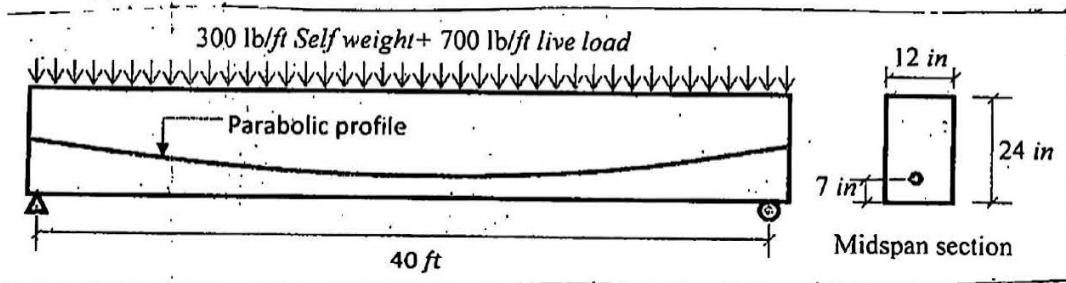

Fig. 4
(c) A post-tensioned bonded concrete beam as shown in Fig. 4 has a prestress of 355 kip in the steel immediately after prestressing and reduces to 308 kip due to losses. In addition to self-weight of 300 lb/ft, there is a live load of 700 lb/ft. Compute the extreme fiber stresses at midspan. (16)